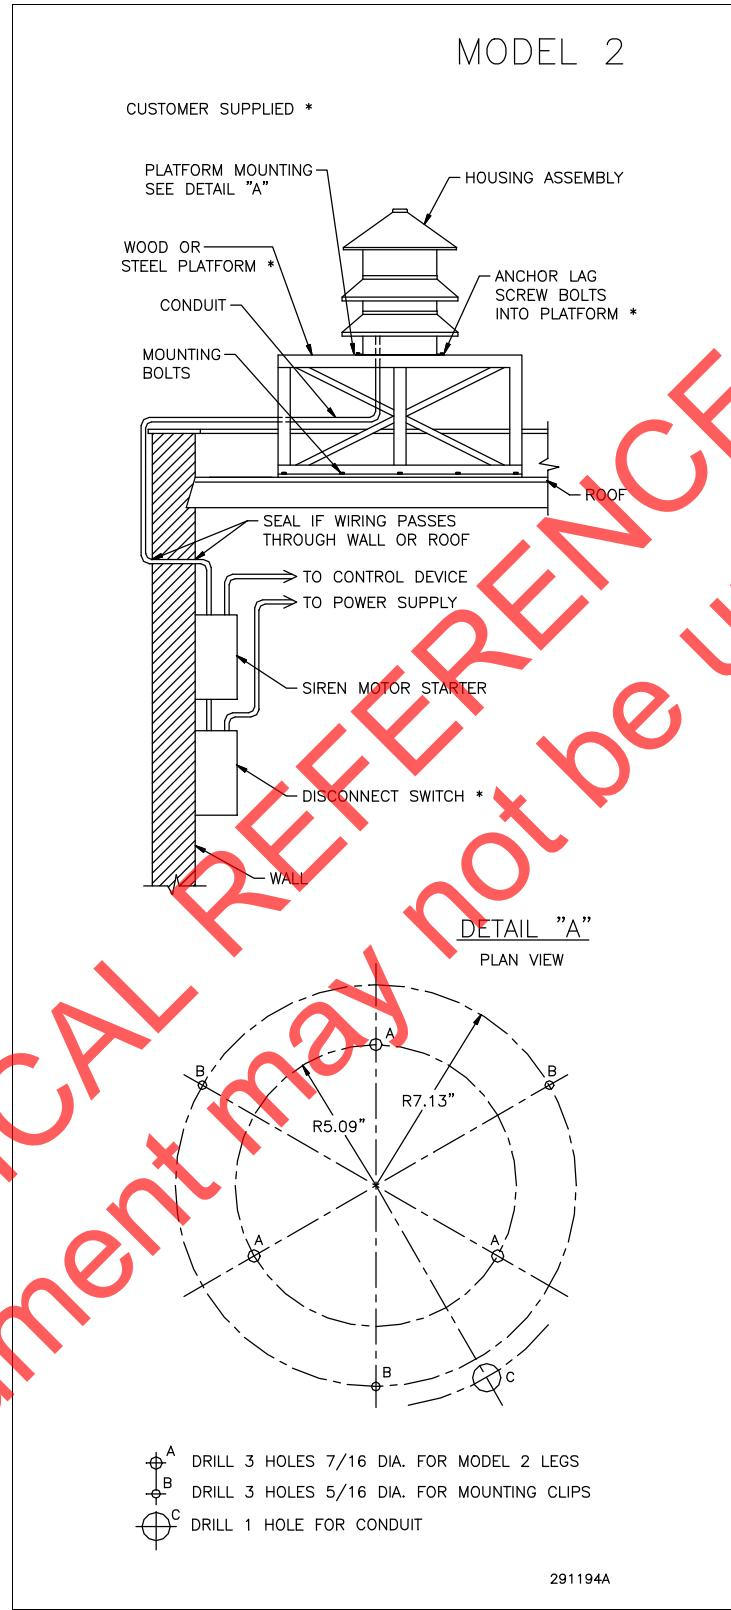

Figure 3-3. Typical Model 2 Platform Mount
- (a) Center the siren mechanism on the mounting surface, and using the mounting holes in the legs of the mechanism as a template, drill three 7/16" holes in the mounting surface (see figure 3-3).
- (e) Install the RC2W Motor Starter, fused disconnect switch, and other control devices as close as practical to the siren following local electrical codes and NEC recommendations. If the siren is installed on the roof of a building, it may be desirable to install the RC2W and other control devices inside of the building. The unit must be installed vertically to operate correctly (see figure 3-3).